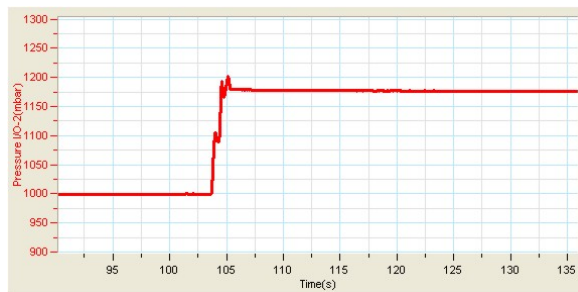

Figure 5
4. Press the corks. The pressure should rise a little and remain constant (see figure 5)